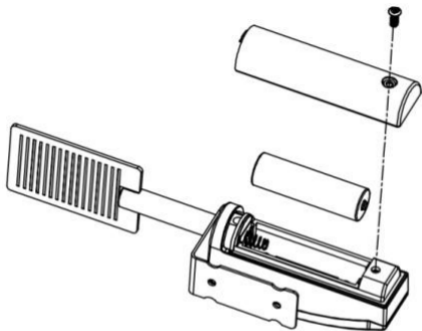

Figure 2: Battery installation
1. Remove the battery door on the back of the transmitter by removing of the screw, as shown in Figure 2:(**make sure the rubber seal is intact when mount or dismount the battery door**)